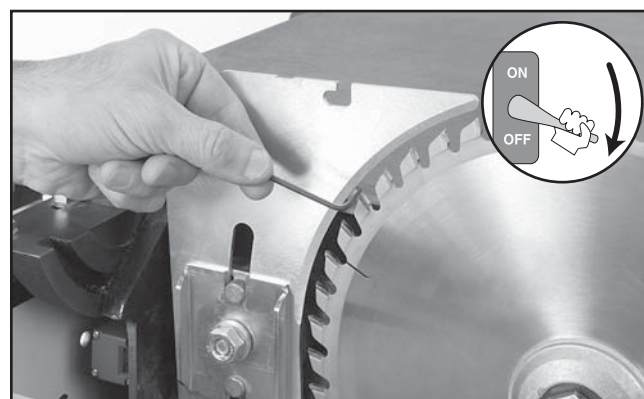

Figure 24. Adjusting the riving knife.
- Position the riving knife just below the highest point and about 3mm or 1/8" away from the main blade. **Note:** For a quick gauge, use a 3mm hex wrench to find the correct spacing between the blade and the riving knife, as shown in **Figures 24 & 25**.